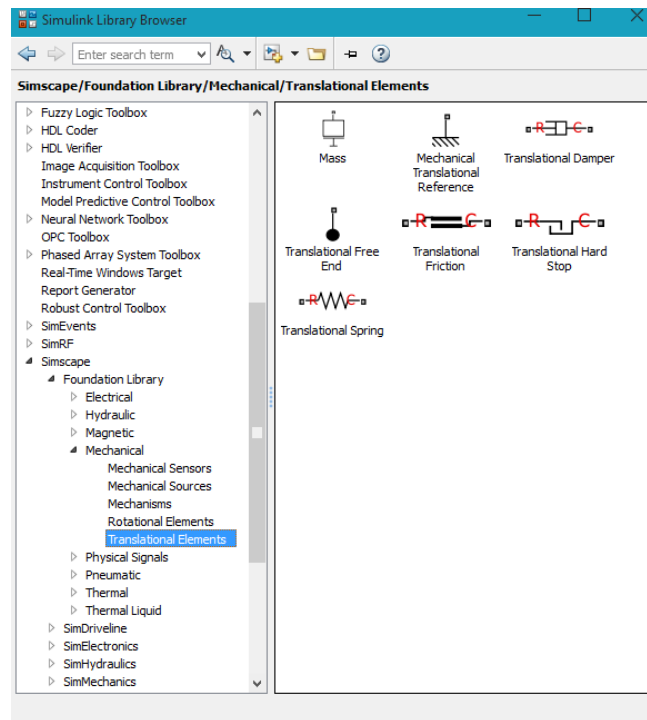

Figure 3.2: Mechanical Translational Elements, step 3
3. Open the **Simscape > Foundation Library > Mechanical > Translational Elements** library as shown in figure 3.2.